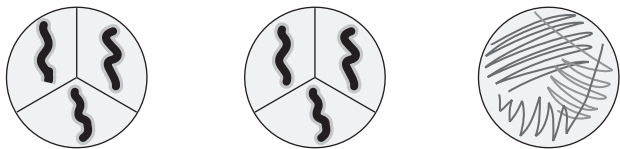

FIG. 13.2. Make sure *Proteus mirabilis* is always placed on a separate plate.
- Inoculate one each of the blood agar, PEA, MSA, MAC, and EMB plates with *Proteus mirabilis*, with the streak technique for achieving isolated colonies. This particular microbe produces numerous flagella, which often enables it to swarm or spread over certain types of media (Fig. 13.2).
- Divide the other two plates of each medium into three sections and pre-label with the name of each of the assigned bacteria. You now have a total of six sections available for bacterial growth. Place a sample of each of the other six bacteria in each section, leaving space between each inoculation (see Fig. 13.2). You may be directed to use a cotton swab in the same manner as was done in the inoculation of the ultraviolet light plates (see Exercise 10*).